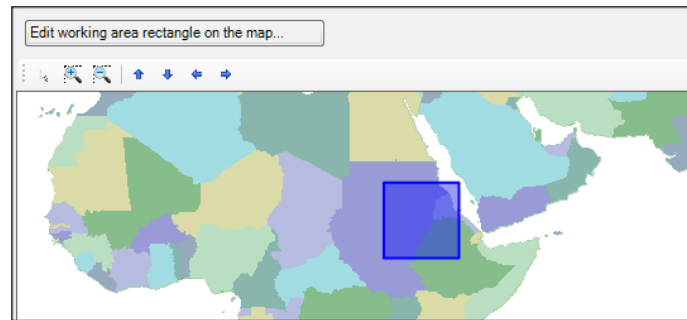

Figure 50: Working area for the NAM model example
- In the working area, zoom in to the Atbara basin region and draw a working area rectangle. An example is given below in Figure 50.